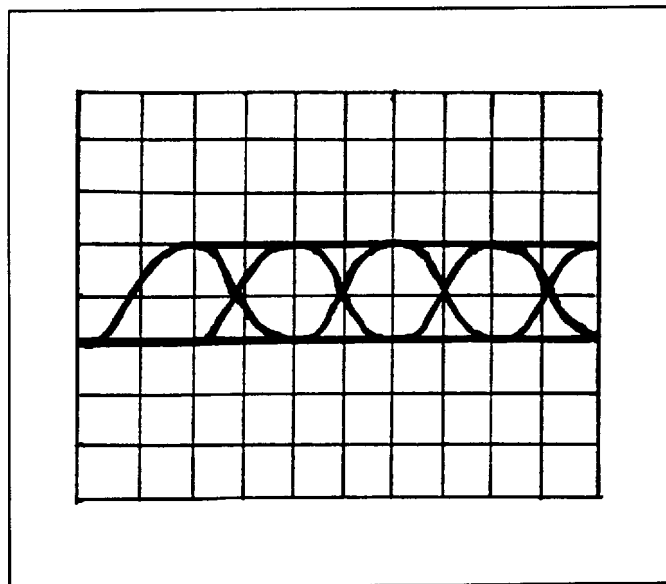

Figure 2 - High Speed Data Eye Pattern
1. Input a companion radio high speed dotting data TX output in the antenna port at 25 milliwatts. Verify an optimum receive eye pattern on the VOL/SQ HI line at J705-3. A typical Eye Pattern is shown in Figure 2.